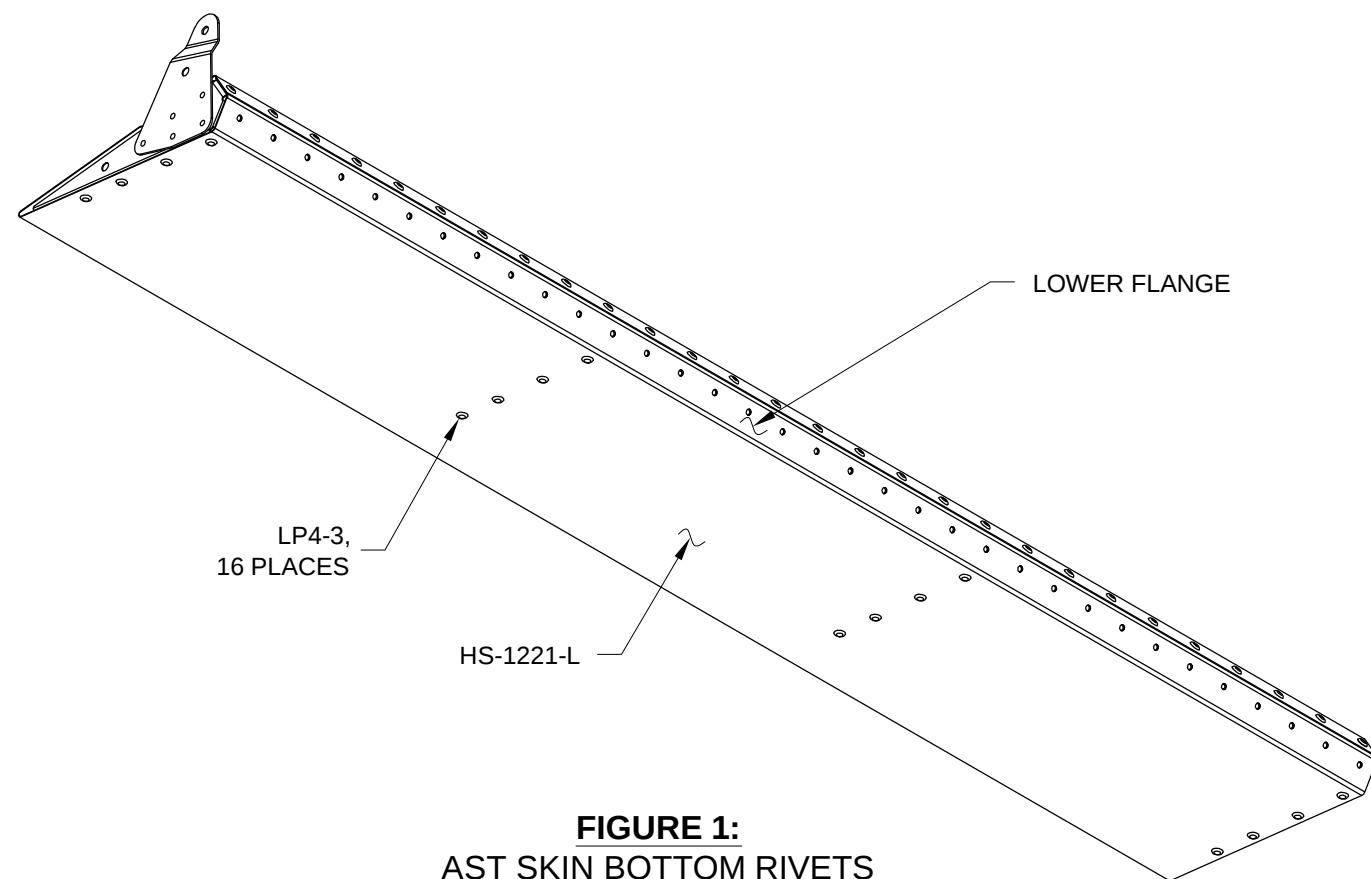

FIGURE 1:
Step 1: Rivet the bottom surface of the HS-1221-L AST Skin to the HS-1222 AST Ribs and the HS-1230 Inbd Rib per the rivet call-out in Figure 1. Guide the lower flange of the AST skin to the outside surface of the HS-1219-L Spar as shown in Figure 2.